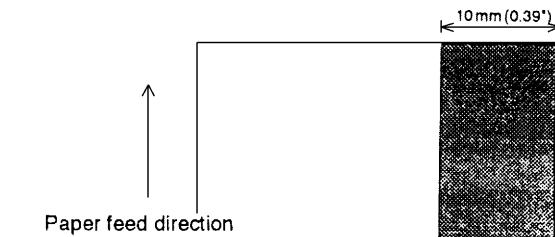

Figure 1-6. Paper Holes and Low Reflection Prohibited Area
- Since the slip ejection sensor uses a reflective photo sensor, paper that has holes or dark portions with low reflection (less than 40% reflection) at the sensor position must not be used (see Figure 1-6).